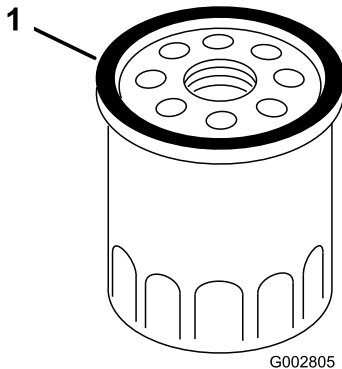

Figure 26
7. Use your finger to coat the gasket on the new filter with oil (Figure 26).